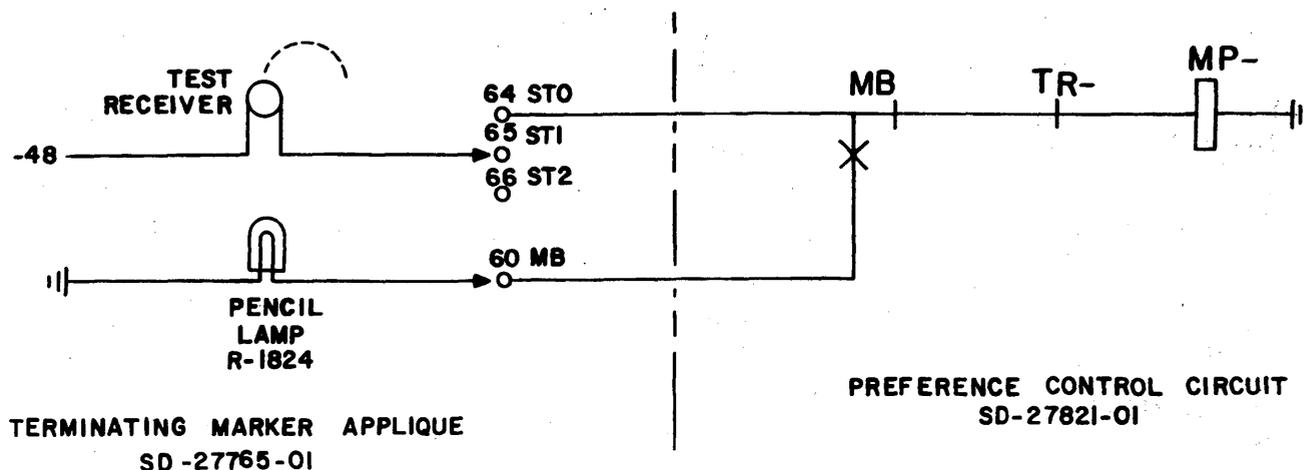

FIG. 2 TEST SETUP FOR ST- LEADS
5.32 Connect an R-1824 pencil lamp to lead MB at the terminating marker as shown in Figure 2. Connect other side of lamp to ground.